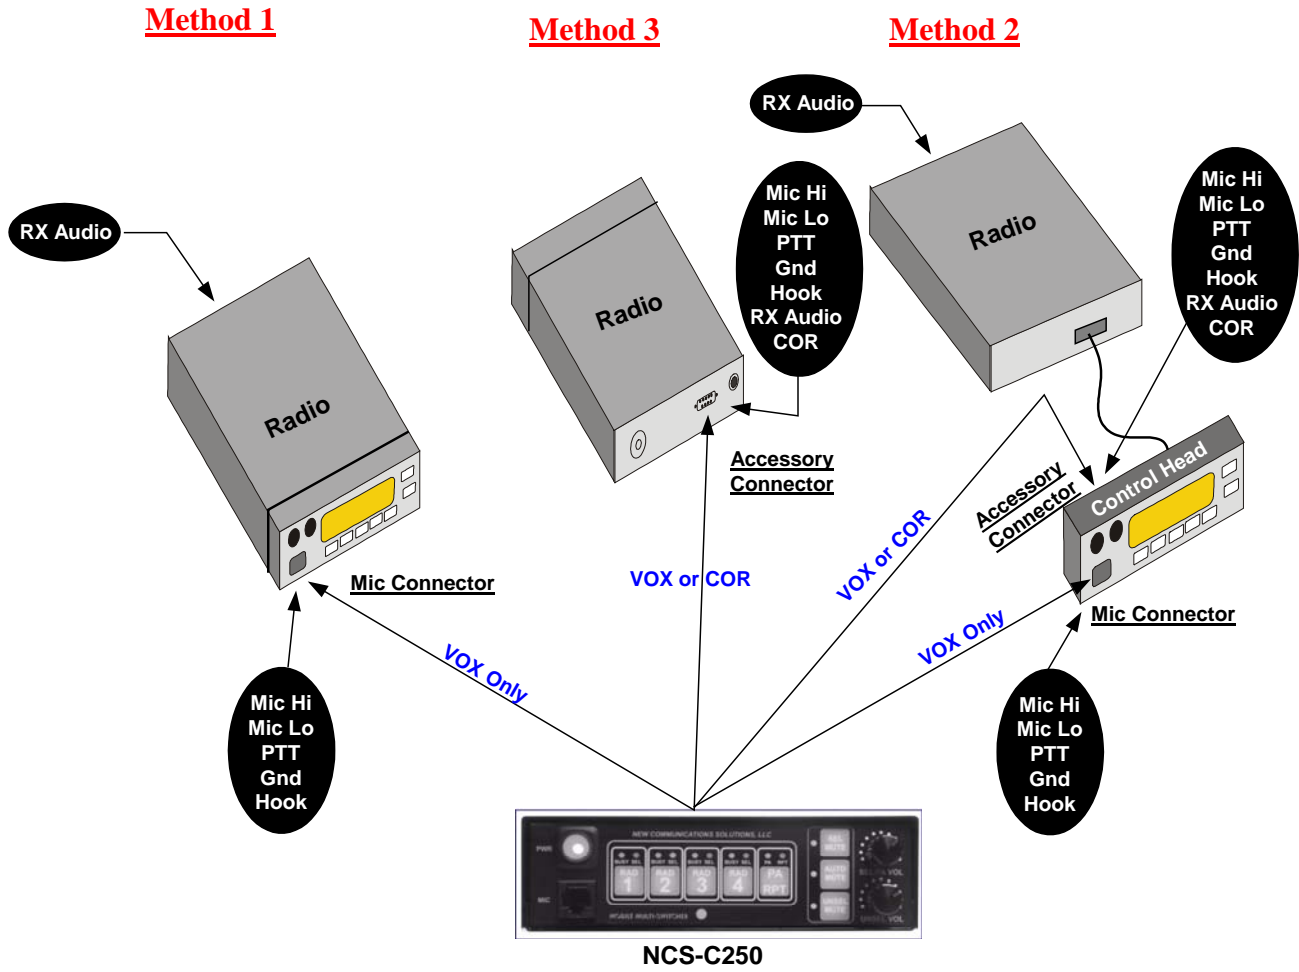

Figure 1
Generally, there are three methods of connecting the C250 to the radio: (1) via the microphone connector and the speaker output jack, (2) via the control head accessory connector (on some radios) and (3) via the accessory connector on the radio. The latter is the preferred interface, since the accessory connector will most likely make available the required signals. Method 2 is highly dependent on the type radio and control head and must be carefully evaluated to assure that all required signals are available. Method 1 is unlikely to have a COR signal or receive audio available on the microphone connector. Figure 1 illustrates these interface methods.
As illustrated in Figure 1, there are basically three methods of interfacing a radio to the NCS-C250. There are pros and cons to each method depending on the application. These three methods are explained below.